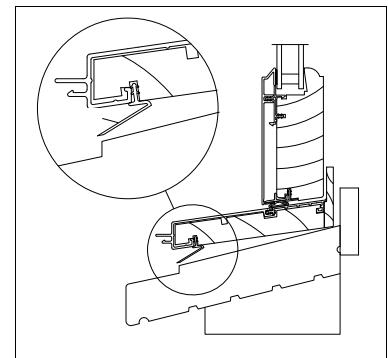

Figure 7
1. Before installing insert unit into opening, bend sill fin forward to the exterior as shown in figure 7. Units with 4° sills or less do not take sill fin.